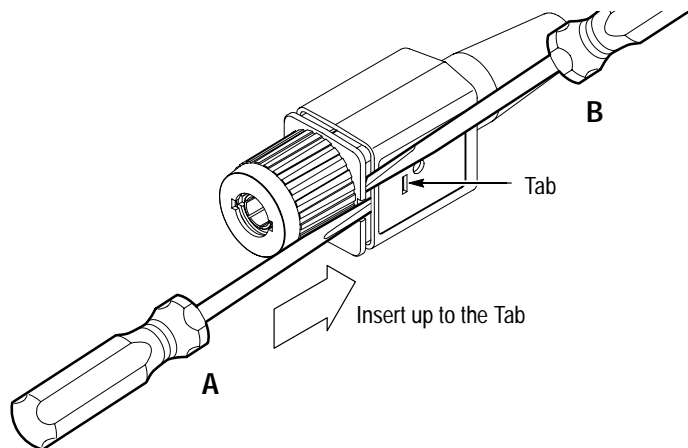

Figure 6: Opening the Compensation Box
To open the cover, obtain two small screwdrivers and use them to unlatch the tab as shown in Figure 6.
1. Insert the flat blade of small screwdriver (A) into the location shown in Figure 6. Insert the blade until it stops against the back of the tab.